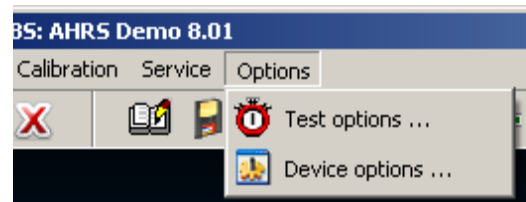
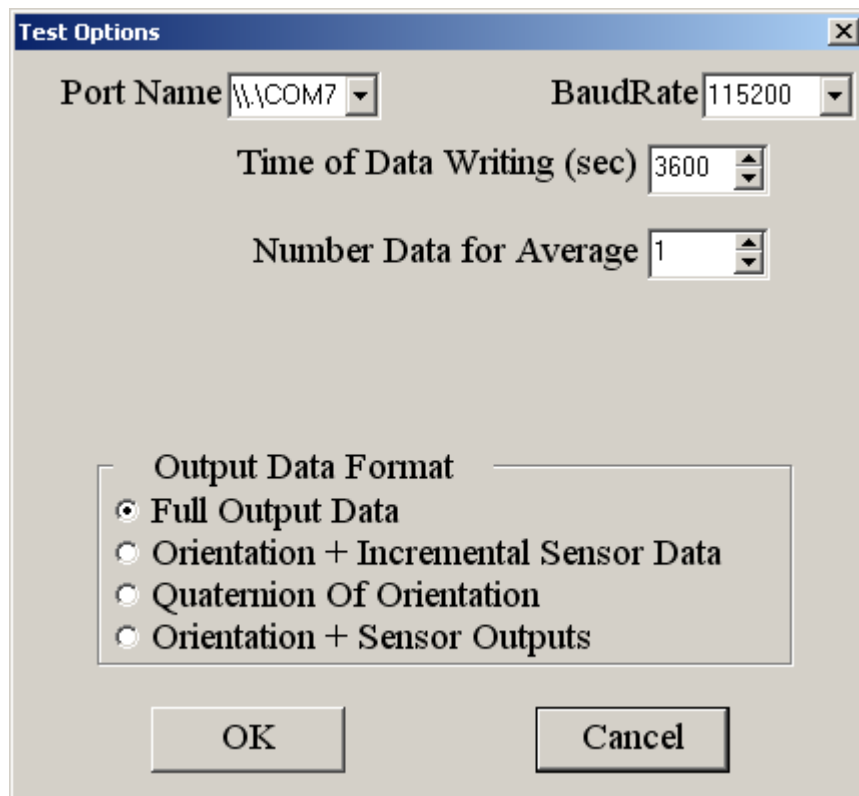

Fig. 3.6
Fig. 4.1
Options Menu contains AHRS configuration commands Fig. 3.6.
To set operation parameters of the AHRS, COM port, format of output data, select «**Test option ...**» (Fig. 3.6) from the «**Options**» menu, or click  button. A «Test option» dialog box (Fig. 4.1) will open.
To set and control of the AHRS operation parameters, select «**Device option ...**» from the «**Options**» menu (Fig. 3.6), or click  button (Fig.3.1). A «Device option...» (Fig. 4.2) dialog box will open that allow you to set the following parameters.
- g) Format of output data «Output Data Format:». The format is set by operator in the «**Test option**» window (Fig. 4.1).